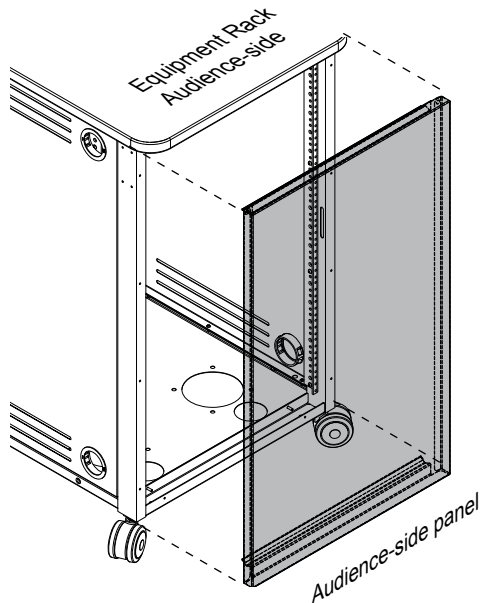

Figure 6
1. To remove the panel, gently pull the top of the panel and lift the panel out and away from the equipment rack. **Figure 6.**